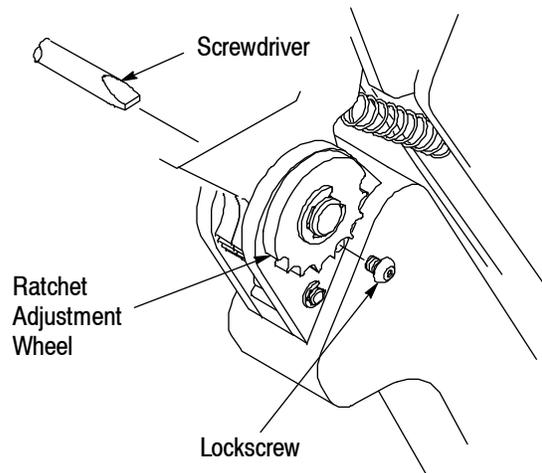

Figure 6
4.3. Ratchet Adjustment (Figure 6)